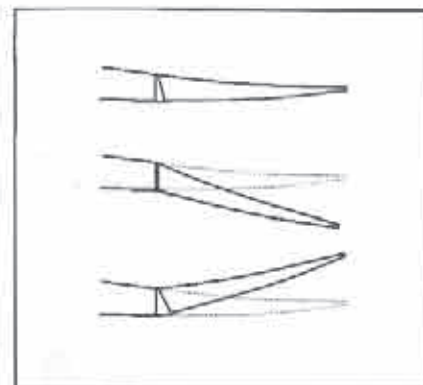

Figure 2
Our initial attempt at inhibiting this tendency was to hinge the elevon from the top surface, thus eliminating the Frise type action. (See Figure 2.) The Blackbird 2M, which we took to Australia in 1993, utilizes this hinging method. The yawing motion resulting from the alternating input described above is reduced, but not eliminated. On the other hand, up elevator is no longer accompanied by the increased drag of the control surface leading edge protruding into the airflow.
**Figure 2** shows in a general way how profile thickness affects the lift. As usual, in these simple charts, the lift
Figure 2 is concerned with symmetrical profiles. Figure 4 shows the effects of adding camber. It was noted previously that, other things being equal if a section is cambered, the chief effect on the lift curve is to move it on the chart to the left and slightly upwards. That is, the zero lift trimming angle of attack is now geometrically negative, and the maximum lift coefficient is somewhat greater. Conversely, the negative stall (inverted flight) is sooner.
The lift curve of cambered wing sections of different thicknesses. Compared with the symmetrical sections of Figure 2, the lift curve moves as a whole upward and to the left. Otherwise there is very little change.